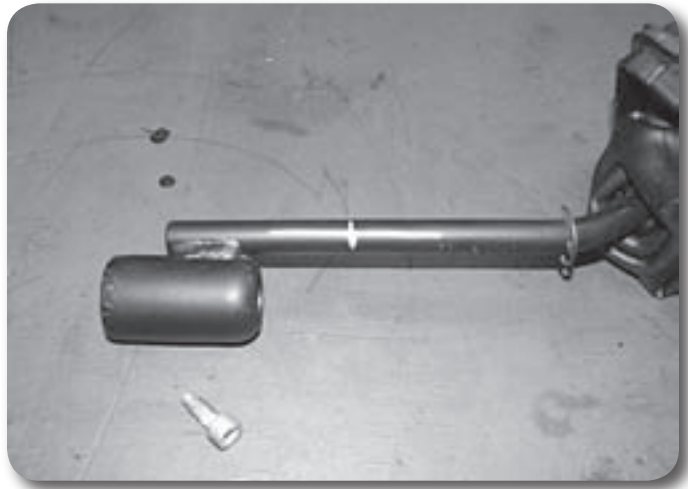

Figure 8
27. Make an alignment mark and cut line approximately 1" above the coupler end of the shift lever (Figure 8)